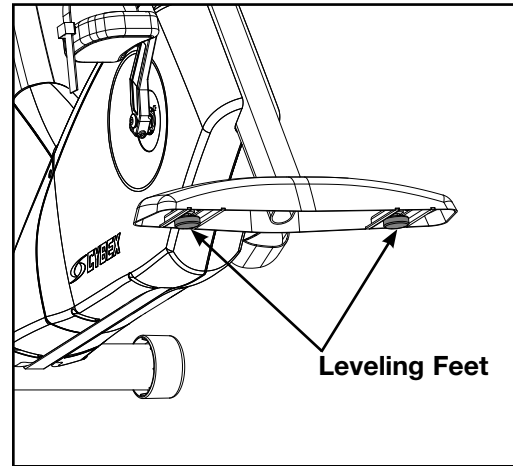

Figure 8
- A. Confirm that the unit is on a level surface. If not, use a 9/16" open-end wrench to adjust the leveling feet up or down. See Figure 8.